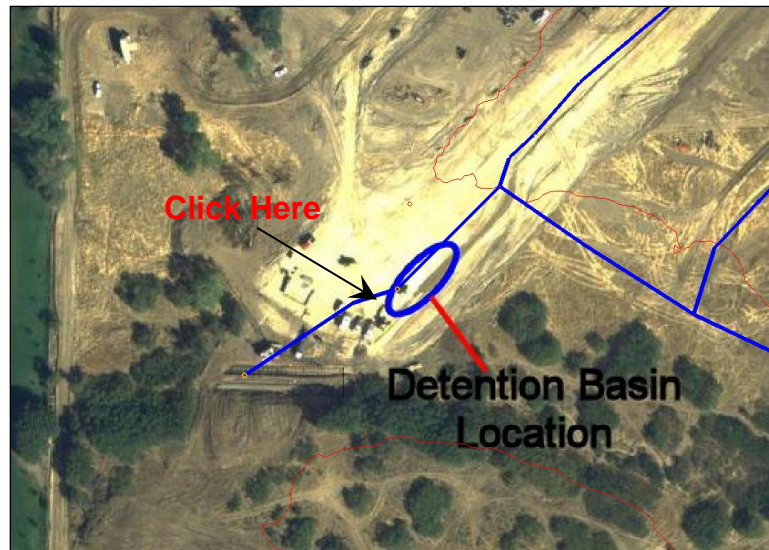

Figure 2 Select the node at the bottom of the Detention Basin Location
4. Using the **Select Feature Point/Node**  tool, double-click on the node at the downstream end of the detention basin location shown in Figure 2 to bring up the *Drainage Feature Point Type* dialog.